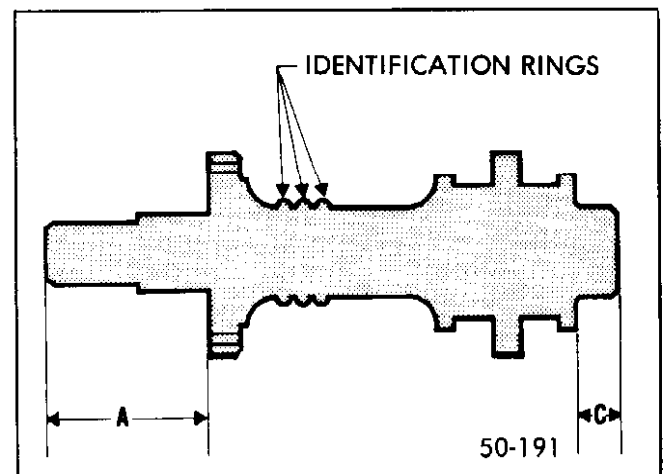

Figure 50-84 Secondary Piston
2. Each vehicle application of these cylinders is designed to produce the correct displacement of fluid from both the front and rear chambers under normal, failed and partially failed conditions. Delco Moraine dual cylinders are designed so that this variable displacement requirement is controlled within each bore size by the dimensions A and C on the secondary piston. See Figure 50-84.